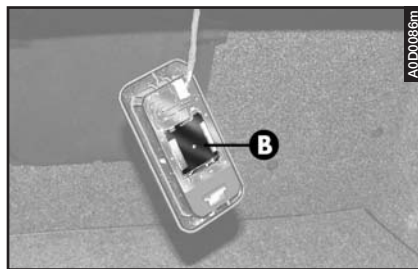

fig. 81
- Lift the protection cover **(B- fig. 81)**.